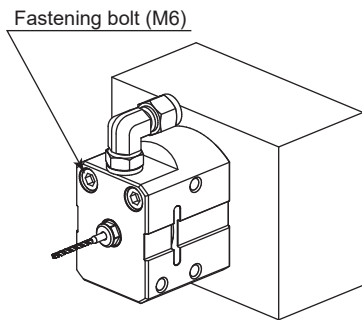

Fig. 18
- (1) Insert the spindle body housing (diameter $\phi 30$ mm) section into the fixed base of the machine tool.
- (2) Secure the spindle through the mounting holes (2 locations) using the fastening bolts (M6). (Fig. 18)